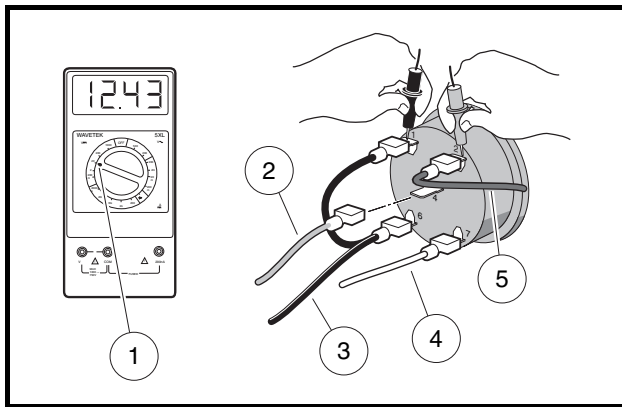

Figure 12-33 Fuel Gauge Voltage Test - Terminal 2
6. Set a multimeter to 20 volts DC and place the red (+) probe on the (2) terminal of the fuel gauge/hour meter where the blue wire is connected. Place the black (-) probe on the (1) terminal of the fuel gauge/hour meter with the black wire (**Figure 12-33, Page 12-33**).
7. Turn the key switch ON. The voltage reading should be the same as the battery voltage reading recorded earlier. If not, check the continuity of the blue and black wires (**Figure 12-33, Page 12-33**).